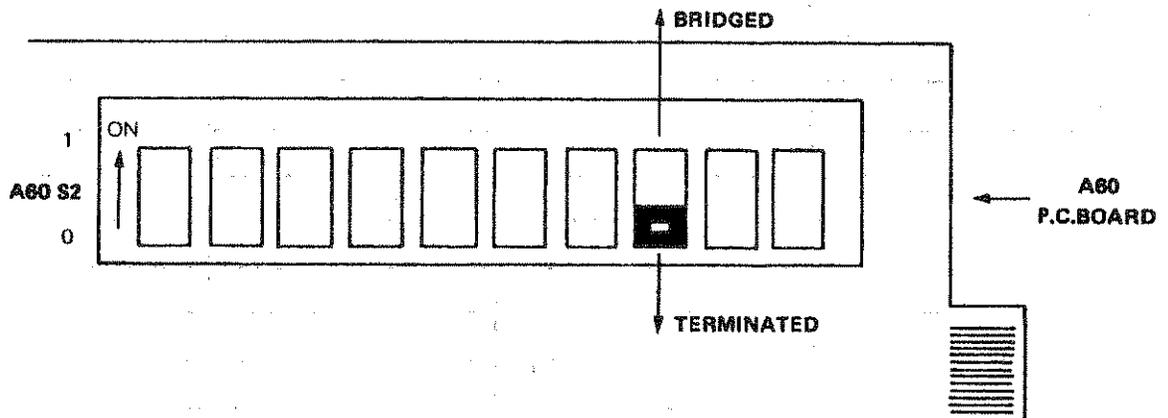

Figure 1
A switch A60S2(8) located on the Controller Assembly (A60) can be preset to determine the wake-up mode of the instrument. If A60S2(8) is set to the "ON" position (see Figure 1) the instrument will have all inputs in the BRIDGED state at power-on. If A60S2(8) is set to "OFF" the instrument "wakes-up" with all inputs in the TERMINATED mode.